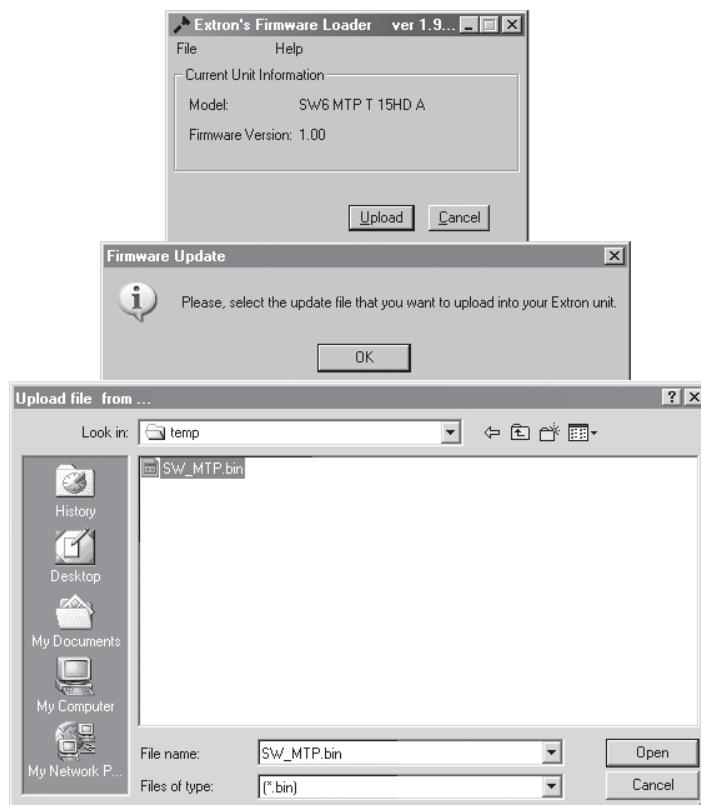

Figure 4-3 — Open window
3. Click *File > Update firmware*. The Extron Firmware Loader appears (figure 4-3).